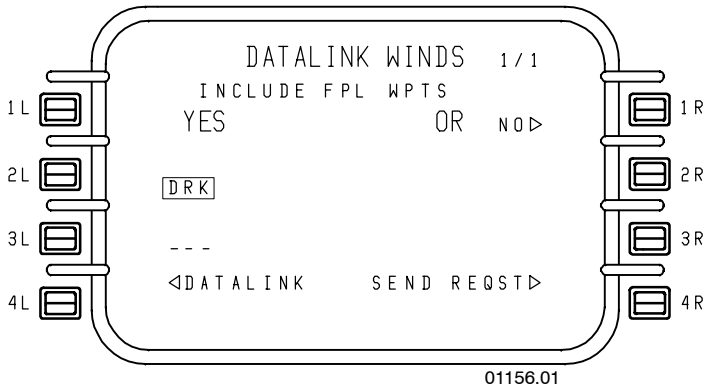

Figure 6-88
- **2L, 3L, 2R and 3R** – These lines allow for entry of waypoints to be included in the wind request downlink. A maximum of 52 waypoints are permitted. Upon entry of a waypoint at 2L, another entry prompt of dashes is provided at the next line select key. This is shown in Figure 6-88.